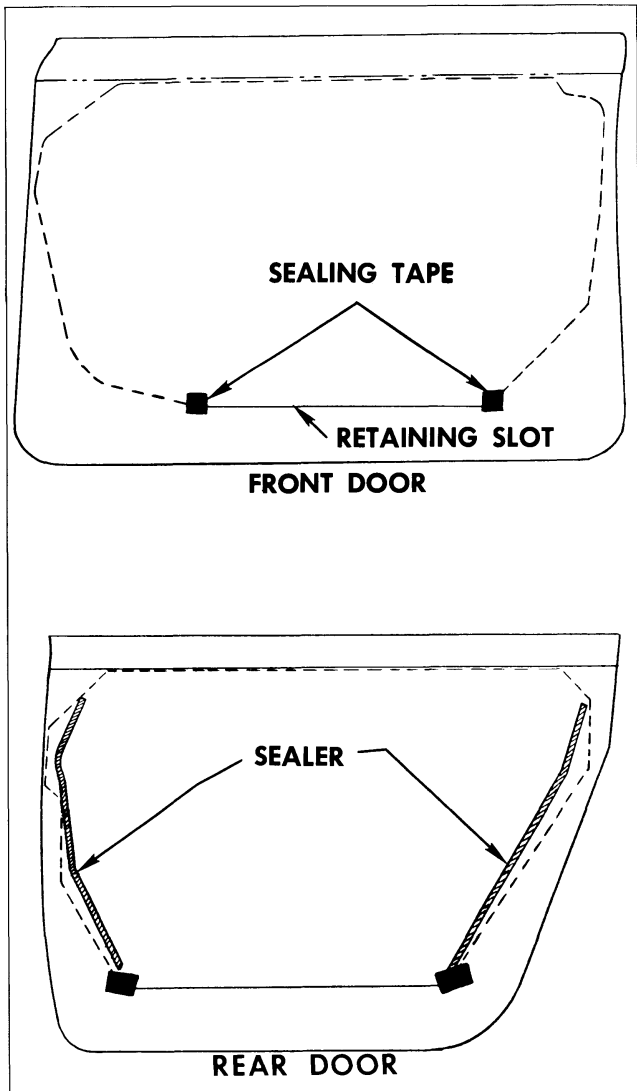

Fig. 12-6 Front and Rear Door Water Deflector
5. Disengage lower edge of water deflector from retaining slot in inner panel and remove water deflector (Fig. 12-6).